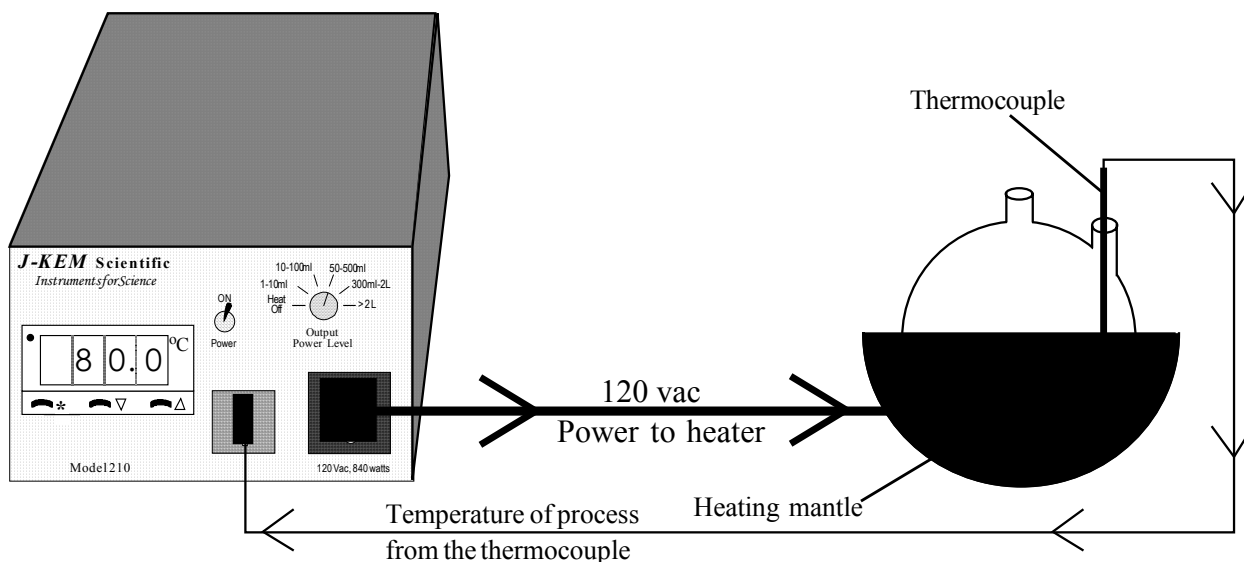

Figure 2
3.10 Do's and Don'ts When Using Your Controller. The controller, heater and thermocouple form a closed loop feedback system (see Fig. 2 in Section 4.1). When the controller is connected to a heater, the feedback loop should not be broken at any point.